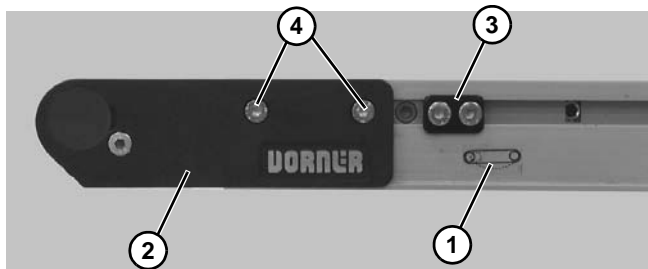

Figure 34
4. On tension end of the conveyor, identified with a  label (**Figure 34, item 1**), push in head plate assembly (**Figure 34, item 2**): On both sides of conveyor, loosen and move cam tracking assemblies (**Figure 34, item 3**) (if equipped) away from head plates, then loosen fastening screws (**Figure 34, item 4**) and push head plate assembly inward.